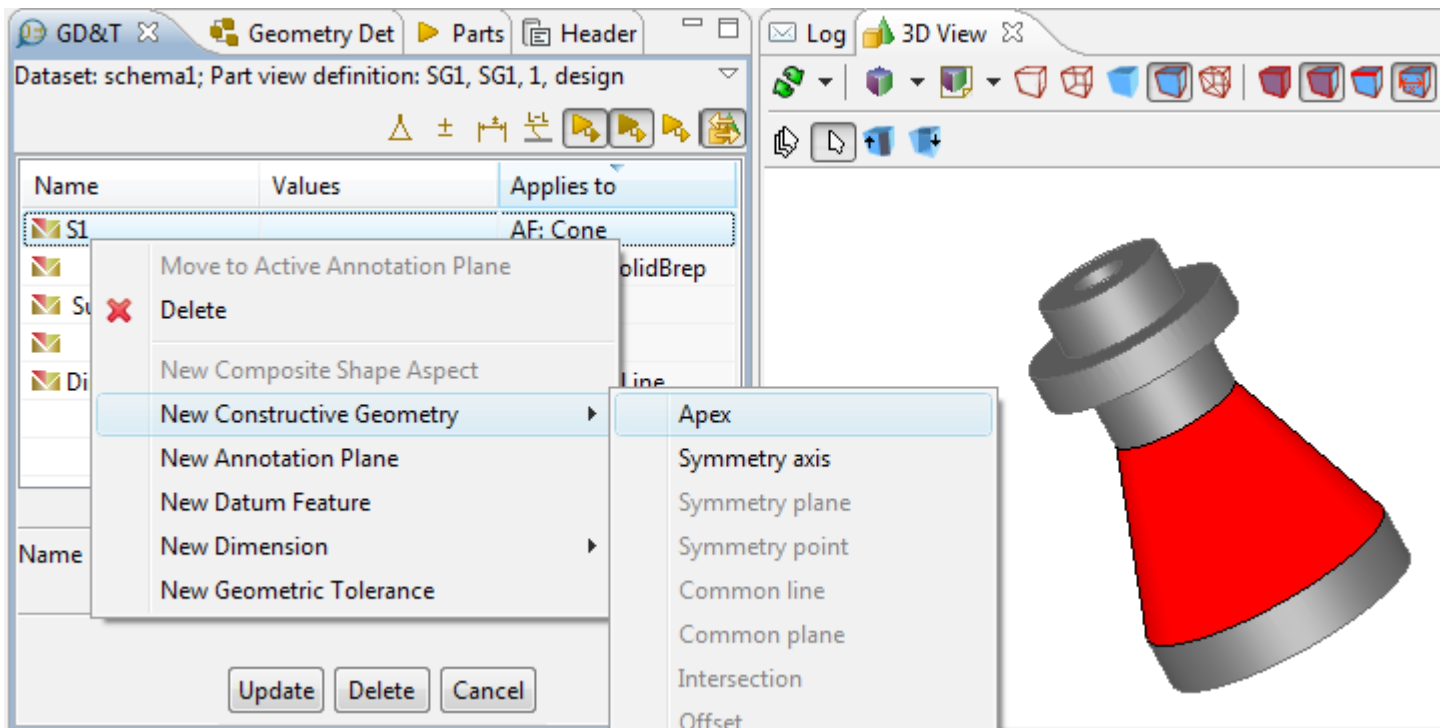

Figure 1. Selected cone shape aspect, menu item to create apex and cone geometry presentation in 3D View
- Right click and select **New Constructive Geometry -> Apex** item in the appeared context sensitive menu (see Figure 1).